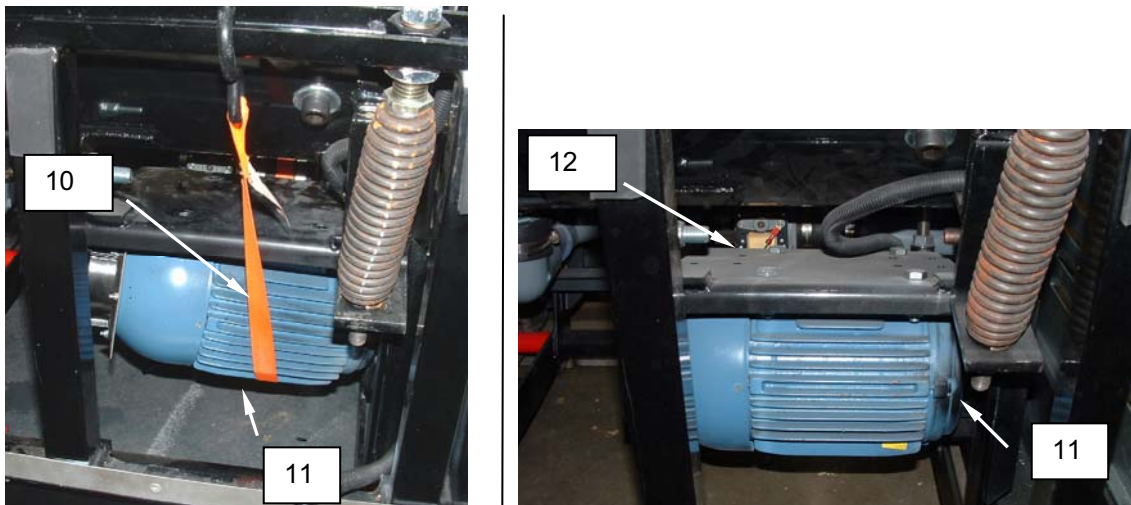

Figure 4. Replace the Washer Motor.
9. Fasten two 1-inch straps (**Figure 4, Item 10**) to both drum support rails, looping under the motor (**Figure 4, Item 11**). Space the straps evenly and tighten straps.
10. Remove bolts, washers, and nuts securing motor (**Figure 4, Item 11**) to motor mount (**Figure 4, Item 12**), and slowly release the strap (**Figure 4, Item 10**) to remove motor. Leave the strap(s) in place.